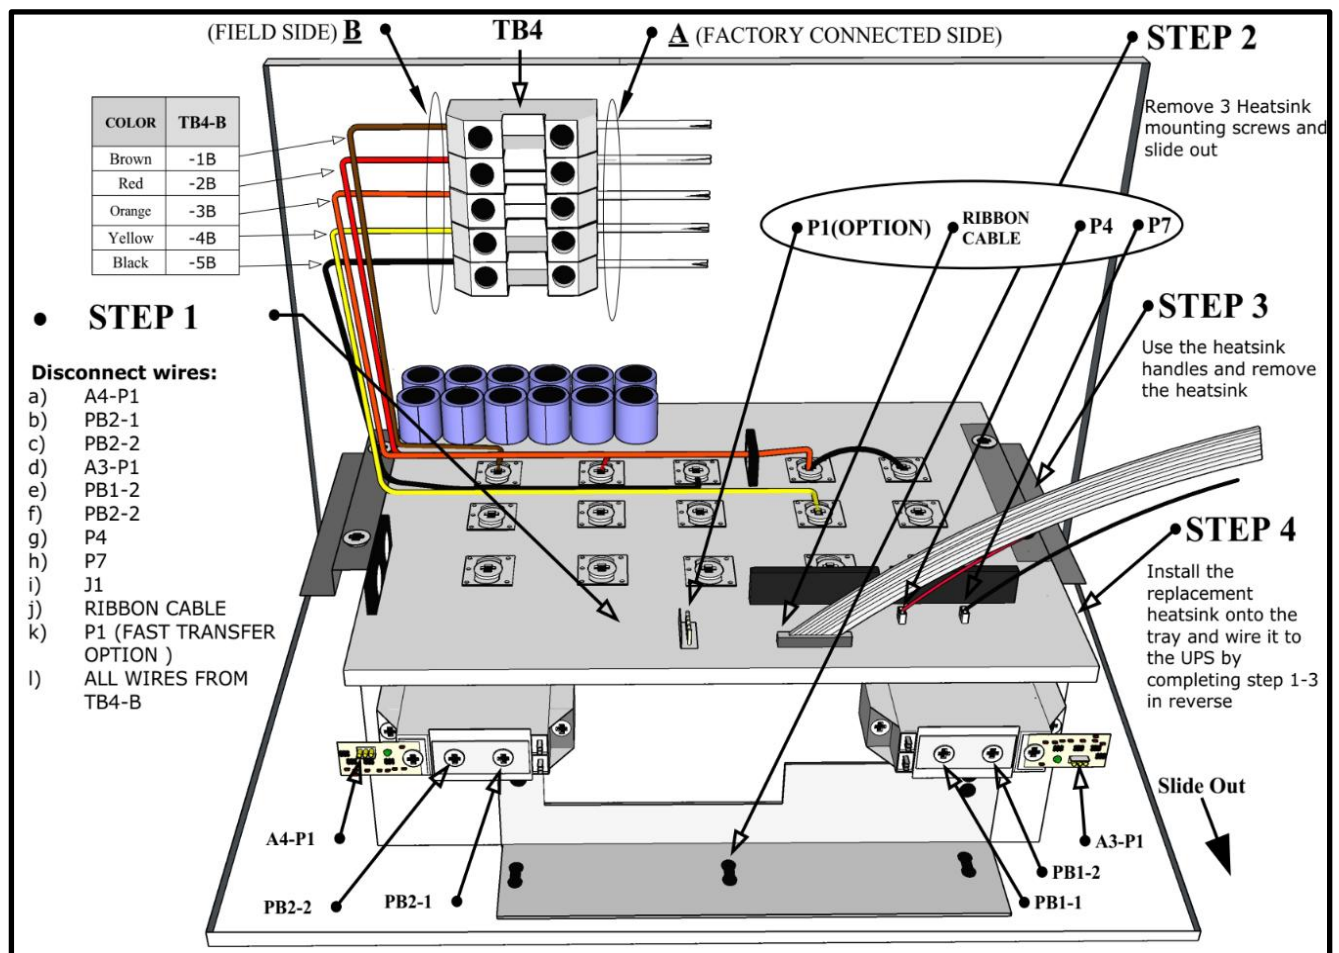

Figure 6-1. Heatsink Assembly
4. Install the replacement heatsink onto the tray and wire it to the unit by completing step 1-3 in reverse (see Figure 6-1).